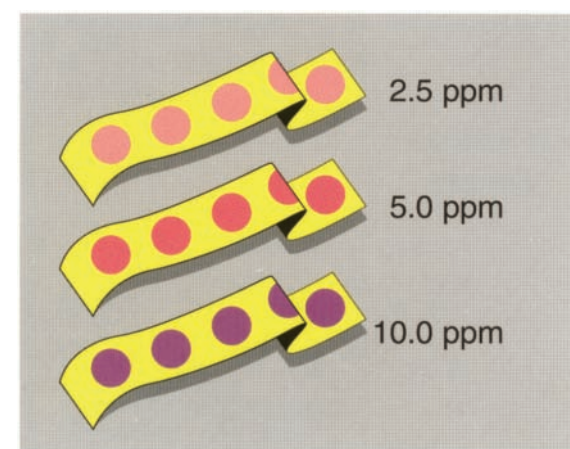

Figure 3 : Typical HCl Stains on Mineral Acid Sensi-Tape
C.I. Analytics has a Sensi-Tape that specifically responds to Mineral Acids like HCl. Figure 3 below shows 'stains' developed when testing for Total Chlorides in propylene sample. The dry colorimetric detection technique, as outlined above, gives accurate and extremely precise results. Factory calibration of instruments and the detection tape is referenced against NIOSH approved and analytical methods. Both laboratory and field tests have verified that analysers using the Dry Colorimetric method give data in agreement with standard reference methods, as typified by the examples in Table 1.